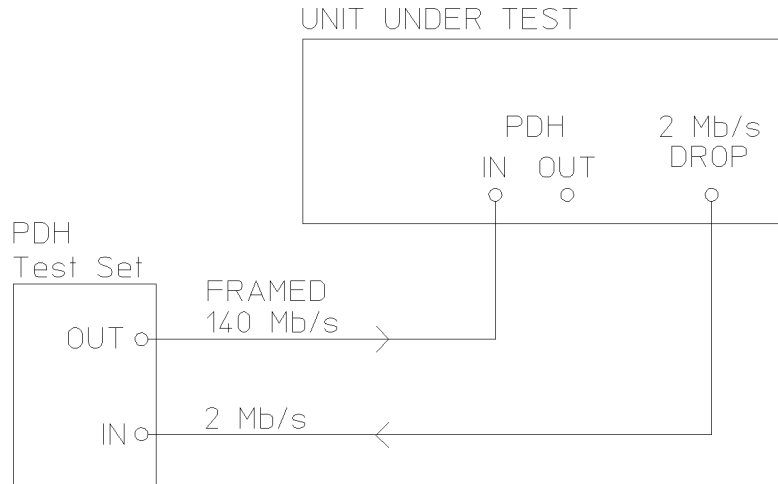

Figure 3-28
2. Connect the equipment as shown in Figure 3-28.